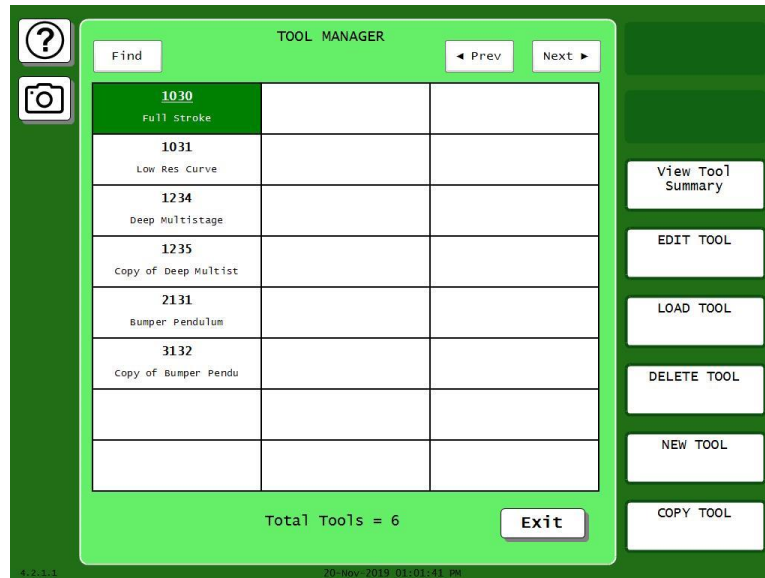

Figure 5-2. Tool Manager Screen
The TOOL MANAGER item on the Main Program Menu enables you to create, copy, delete and load tools. You perform these functions on the Tool Manager screen Figure 5-2, which displays when you select TOOL MANAGER.
Once you have created a tool, you must program it before the tool can be loaded. You program tools on the Tool Program Menu, Figure 5-2, which you access from the Tool Manager screen by pressing Edit Tool.
- In the example shown in Figure 5-2, tools are sorted by tool number.